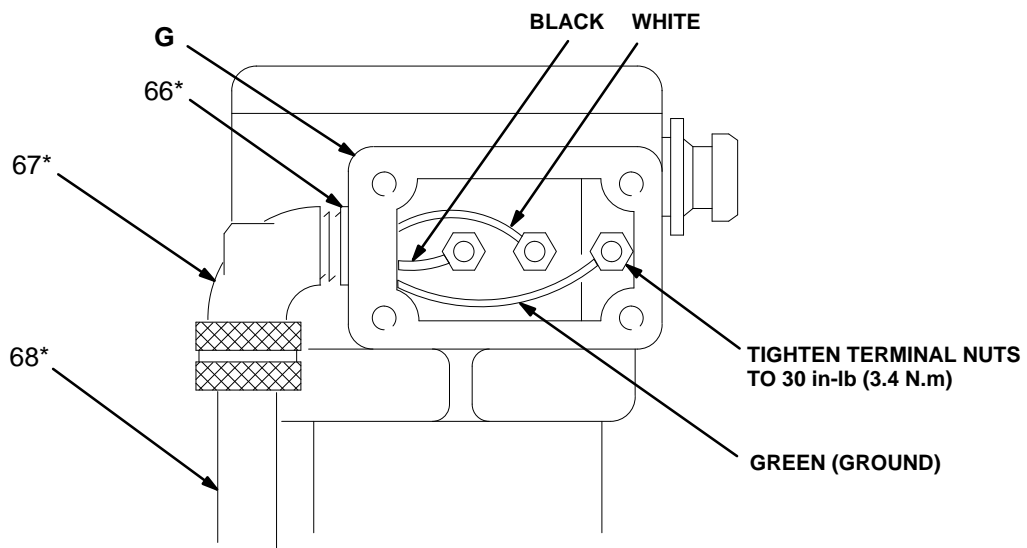

Fig. 3
1. Remove the cover from the electrical box (G) at the back of the heater. Screw the bushing (66*) into the inlet of the electrical box. Install the cord grip elbow (67*) in the bushing. See Fig. 3.
2. Thread the cord (68*) through the elbow (67*) and into the electrical box. Attach the black lead to the leftmost terminal, the white lead to the center terminal, and the green ground wire to the rightmost terminal. Tighten all terminal nuts to 30 in-lb (3.4 N.m). Tighten the nut on the cord grip elbow (67*) to secure the cord. See Fig. 3.